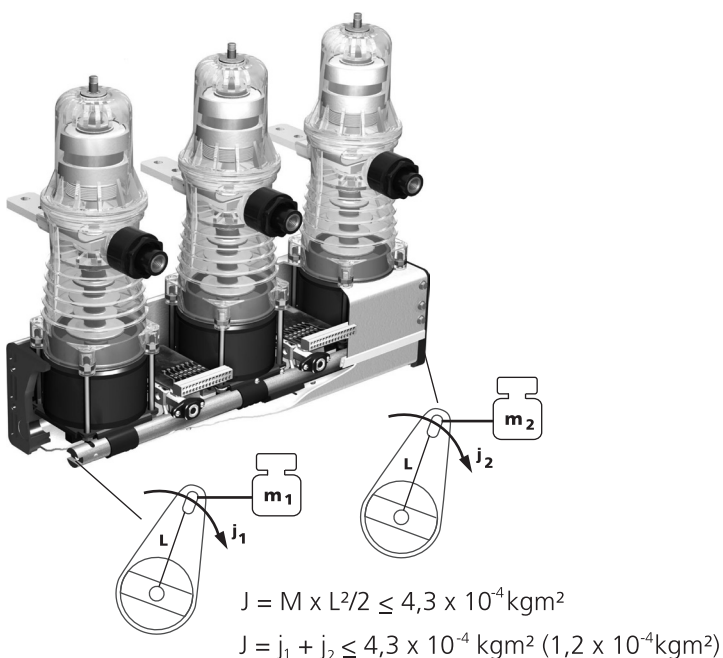

Figure 34
- If the attached part is joined with a lever mechanism, the weight (including directly moved parts) shall be decreased in proportion to the lever (Figure 34).